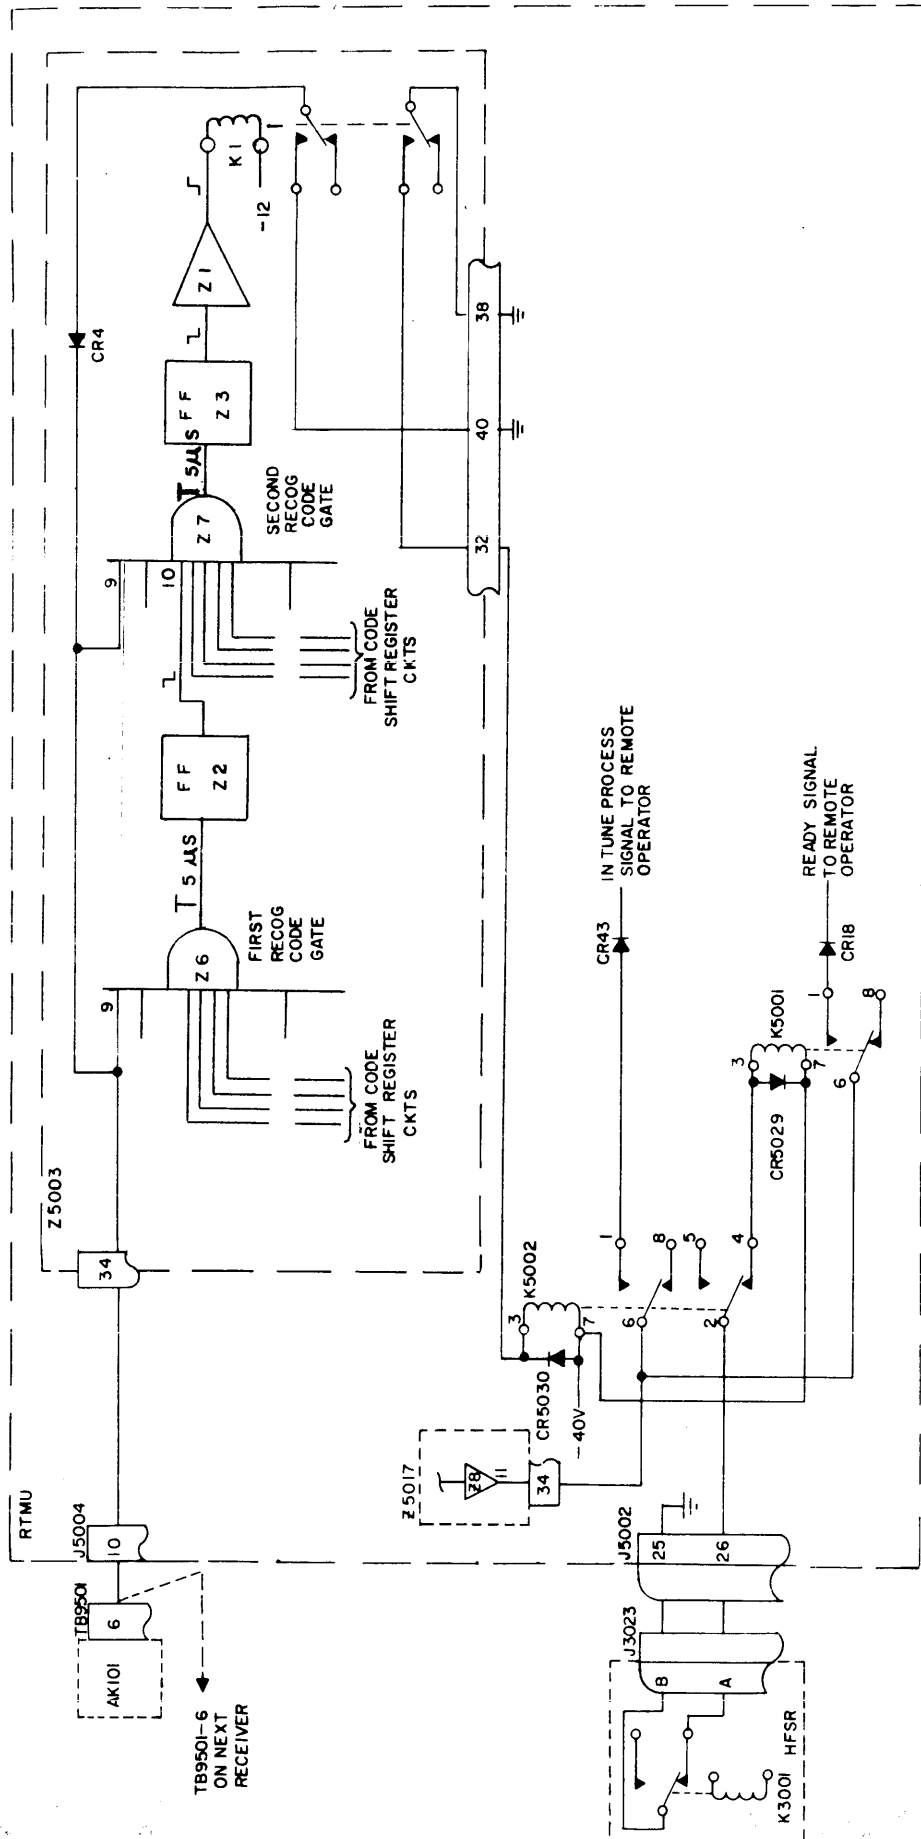

Figure 4-4. In-Tune Process/Ready Readback Circuits, Simplified Schematic
The first 5-bit (alpha) parallel pulse is then applied to the input of andgate Z6 in Input Recognition Module Z5003 (refer to figure 4-4); upon satisfying input conditions established via cross connections, Z6 will open and set flip flop Z2 which in turn prepares andgate Z7 to operate upon receipt of the proper (programmed) numerical code. The next 5-bit (numeric) parallel pulse is applied to the input of andgate Z7; upon satisfying input conditions established by cross connections Z7 will open and set flip flop Z3. The negative output of Z3 is applied simultaneously to: (1) an inverter which energizes relay K1; (2) andgate 5 of Z9 contained in Shift Register No. 6 (Z5006) - this establishes one of the two conditions required to trigger andgate 5.